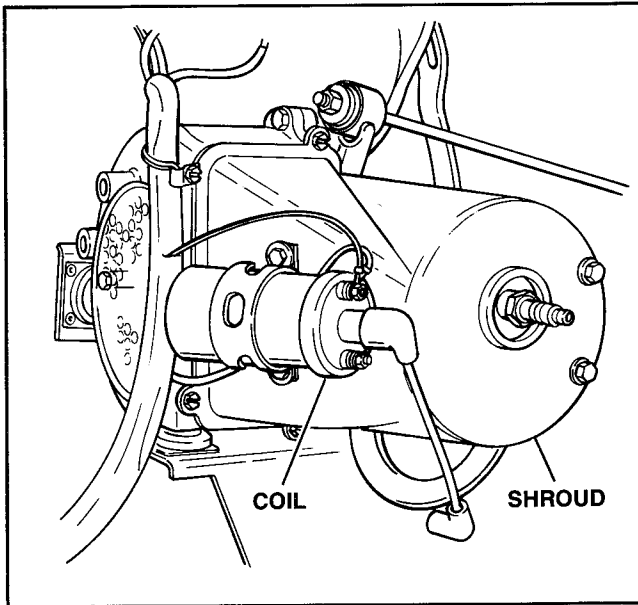

Figure 7-3 – Shroud Removal
- d. See Figure 7-3. Remove the top shroud bolts and washers.
- e. See Figure 7-3. Remove coil wires. Remove the shroud screws, shroud, and coil.